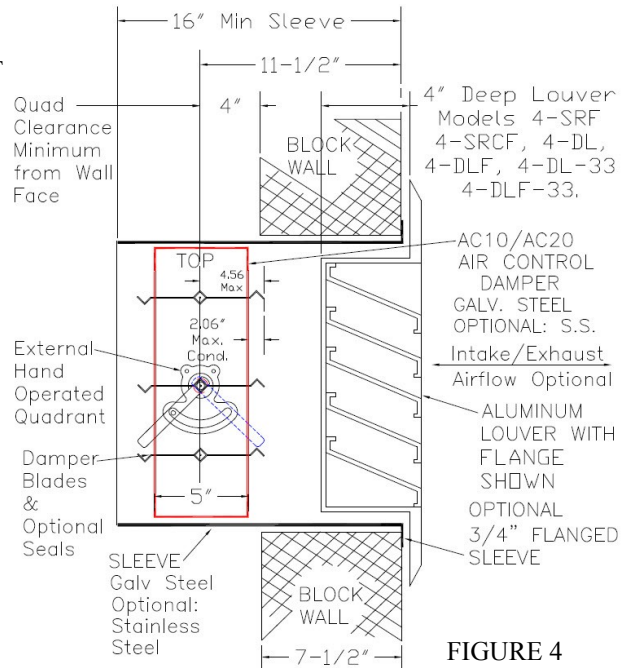

FIGURE 4
**FIGURE 4 ILLUSTRATES THE COMBINATION OF LOUVER/ AIR CONTROL DAMPER/ SLEEVE/ QUADRANT FOR 4" DEEP 4-SRF & 4-SRCF, 4-DL, 4-DLF LOUVERS FOR INSTALLATION INTO 7-1/2" BLOCK WALLS